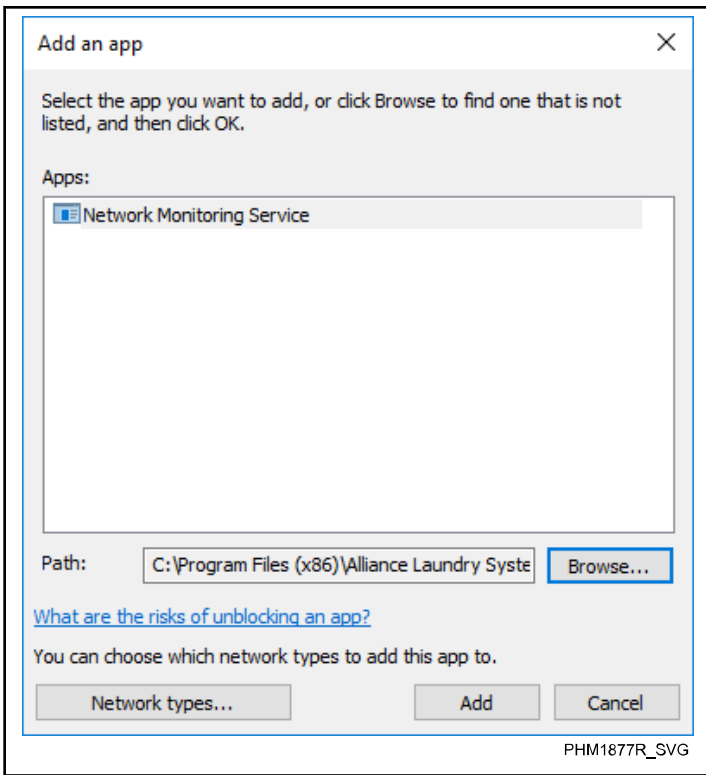

Figure 44
7. In the "Add a Program" window, click the **Add** button. Refer to *Figure 44*. Windows Firewall is now configured to allow the NetworkingService.exe to communicate.